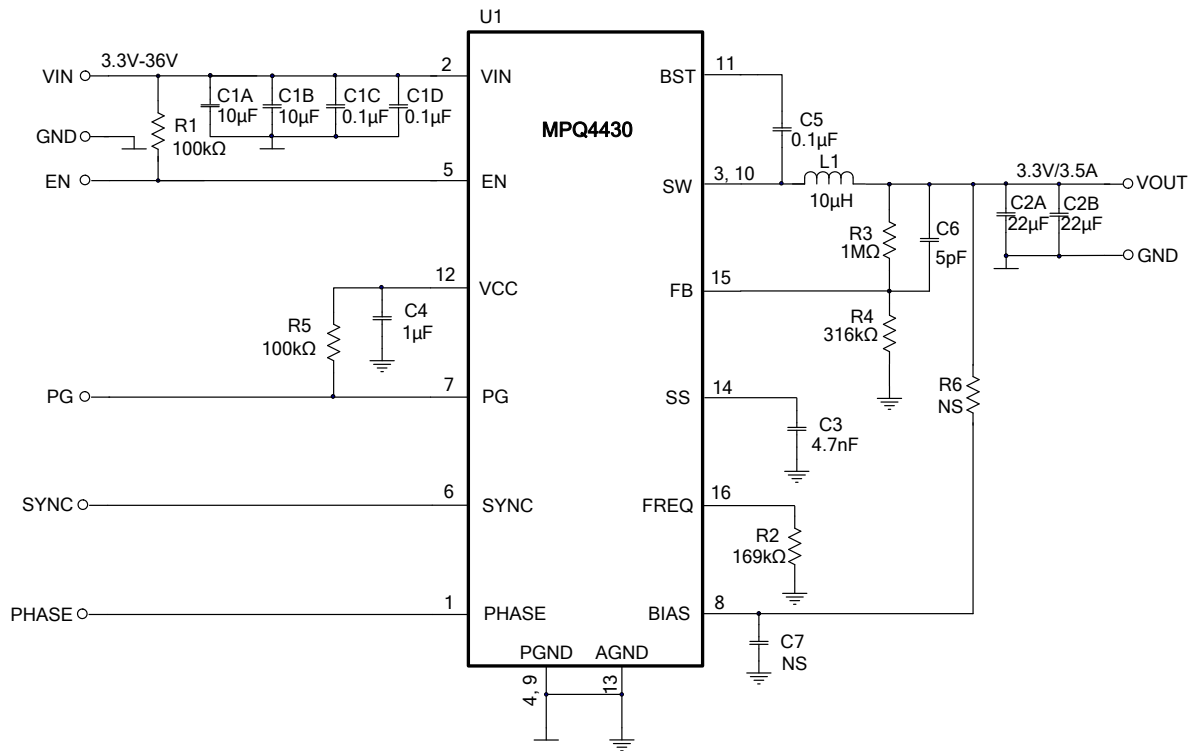

Figure 9: $V_{OUT} = 3.3V$, $F_{sw} = 500kHz$
- 6) The recommended PCB layout is based on Figure 9.